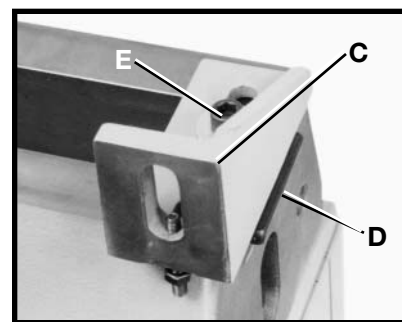

Fig. 5
4. Insert clamping plate (C) Fig. 5 of mounting bracket assembly (D) into channel on tailstock end of lathe bed. **NOTE:** Loosely tighten hardware (E).